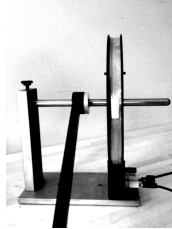

Figure 7: Setup for measuring the fall-off of B on axis.
8. Put the small coil on the stand as in Fig. 7, and move it as close as you can to the large coil. Record the approximate distance (in cm) between the plane of the small coil and the plane of the large coil, and measure the amplitude of the induced *emf*.